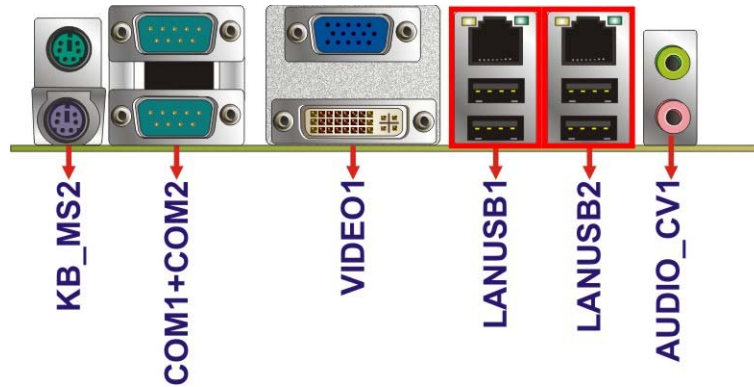

Figure 3-21: KINO-AH612 External Peripheral Interface Connector
Figure 3-21 shows the KINO-AH612 external peripheral interface connector (EPIC) panel.
CN Location:	See Figure 3-21
CN Location: See Figure 3-21
CN Location: See **Figure 3-21**
- CN Location:** See Figure 3-21